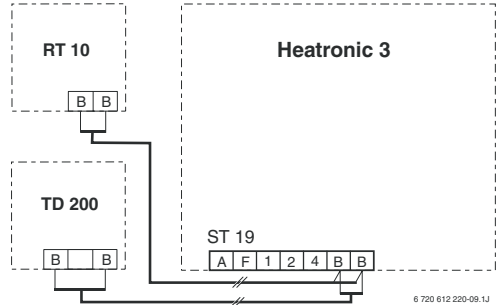

Fig. 10 TD 200 connected to the bus-enabled Heatronic 3.
- ▶ Make electrical connections (see Figure 10).